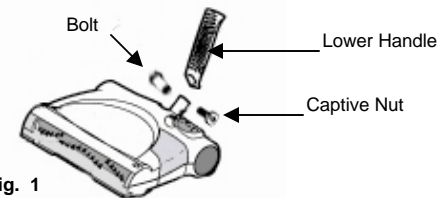

Fig. 1
1. To assemble your sweeper, first remove the captive nut and bolt located on the power nozzle. Push the lower handle onto the power nozzle and then replace the captive nut and bolt. Tighten using a screw driver. (Fig. 1)